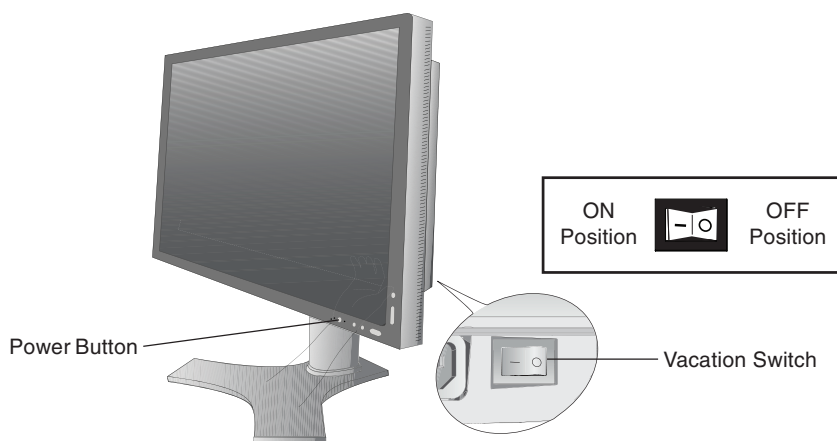

Figure E.1
9. The Vacation Switch on the back side of the monitor, near the AC inlet, must be turned on. Turn on the monitor with the front power button (**Figure E.1**) and the computer.